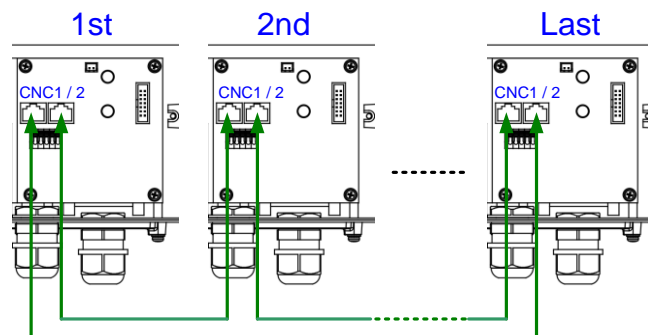

Fig. 3-11 CAN communication connections for operation in parallel
- Communication connection, 1st unit connects to 2nd unit, 2nd unit to 3rd unit and so on, the last unit connect back to 1st unit (Fig. 3-11).
- Communication connection, 1st unit connects to 2nd unit, 2nd unit to 3rd unit and so on, the last unit connect back to 1st unit (Fig. 3-11, same as mono phase).